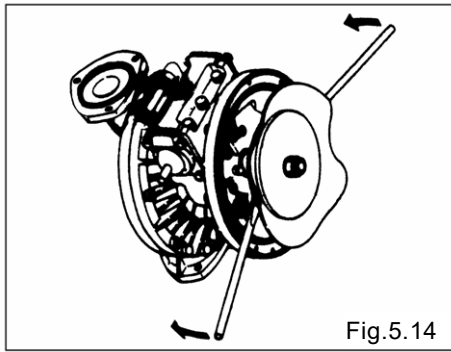

Fig.5.14
- Grip the inside center disk using crowbars and draw it to the opposite side, then turn the diaphragm over. (exclude B\_H, B\_S type) [Fig.5.14, 5.15]